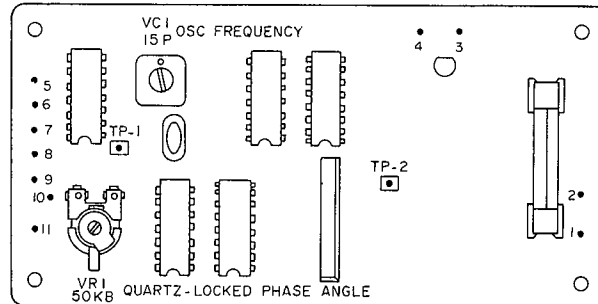

Fig. 20
- Depress the QUARTZ LOCK button in (ON).
- Adjust VR1 until the width of the upward pulse above 2 to 4V is $22 \pm 2 \text{ msec}$ when the stroboscope pattern is seen standing still, as Fig. 20.